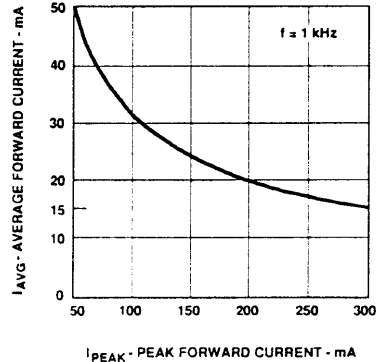

Figure 6. Maximum Average Current vs Peak Forward Current. Refresh Rate = 1 kHz.
- Refer to Figure 6 to establish pulsed operating conditions.